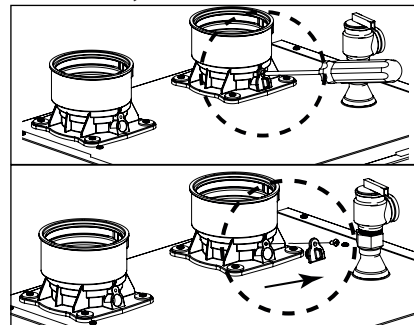

Figure 77 - Combustion Test Port
5. Reinstall the combustion test port - see Figure 77.